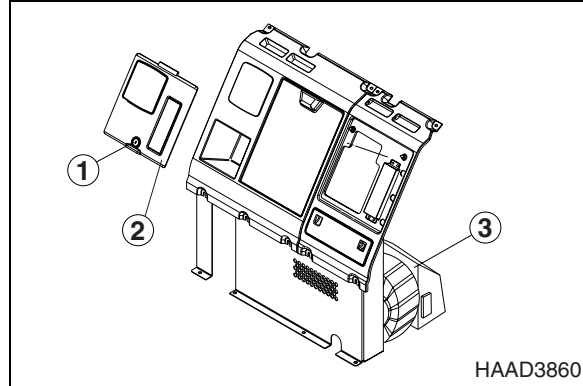

Figure 2
1. Turn the key cylinder (1, Figure 2) to open cover (2, Figure 2) behind operator's seat.
3. Remove cover (2, Figure 2) from the rear box.
4. Remove filter cover (3, Figure 2) from air conditioning unit.